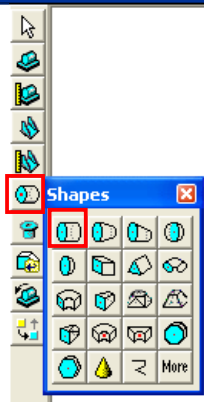

Figure 11: Place Shape Command on the Vertical Toolbar
- Click and hold the **Place Shape** on the vertical toolbar to display the shape selection palette and then, click **RtCircularCylinder** to select a cylinder, as shown in Figure 11.